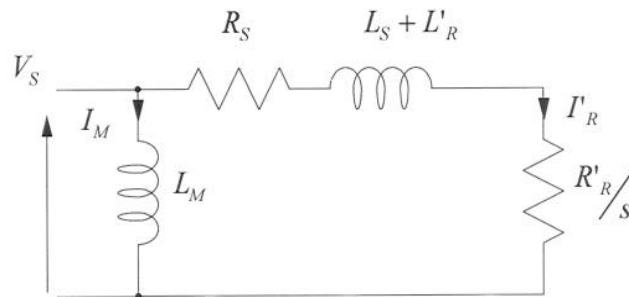

Figure Q3 Approximate equivalent circuit of an induction machine
- b) Figure Q3 shows an approximate equivalent circuit for an induction machine (one in which the magnetising inductance has been moved to the stator terminals). It is to be supplied from an inverter with a DC input voltage of 650 V. The designed level of magnetising flux linkage (in RMS form) is $\Psi(\text{design}) = 0.70$ Wb.